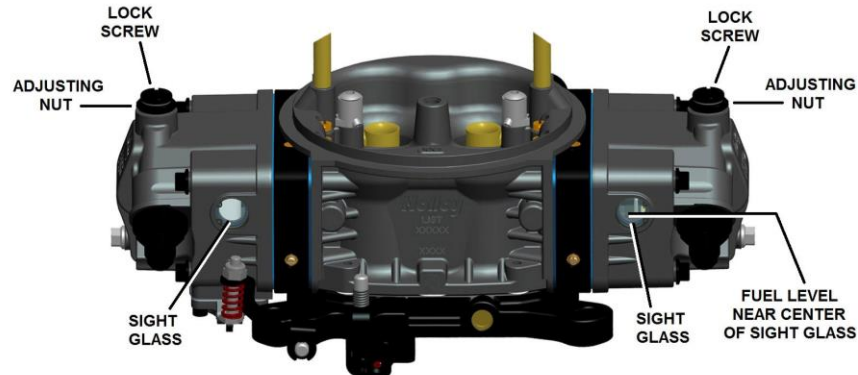

Figure 1
3. The fuel level in the clear sight glass should be mid-level for correct float adjustment. Most likely, the fuel level will not need to be adjusted. See Figure 1.